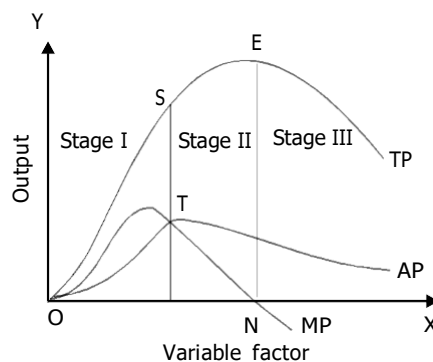

Fig. 6.1
With a given fixed quantity of land, numbers of workers are increased from 1 to 10. When there are 7 workers engaged, the output is maximum, i.e., 118 kgs. Beyond this point, the total product starts diminishing. Up to 3rd unit of worker, the total product increases at an increasing rate and after that at diminishing rate. This is clear from the third (MP) column that marginal product is falling continuously after 3rd unit of worker and even becomes negative beyond 8th unit of worker. Average product increases up to 4th unit of labour and falls through out thereafter. The law can be also explained using Fig. 6.1 shown as under: